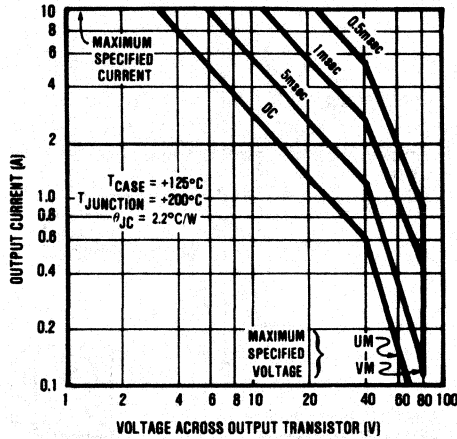

FIGURE 8. Transistor Safe Operating Area at +125°C Case Temperature.
Limits for short pulse widths are substantially greater than for steady state (DC). At a case temperature of +125°C the SOA limits are reduced (see Figure 8). The SOA shown in these curves is based on a conservative linear derating of both the power dissipation and the second breakdown region.